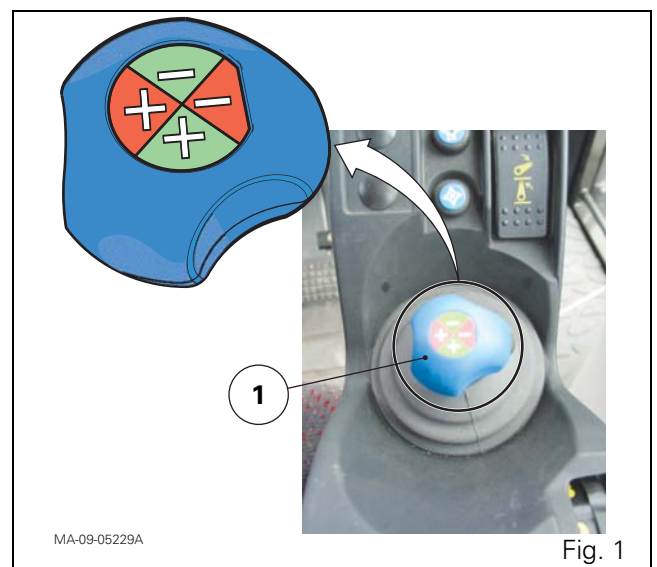

Fig. 1
The electrohydraulic spool valves controlled by a Joystick (1) (Fig. 1) are fitted with a floating Kick-out position (automatic return to neutral).
NOTE: Figures 1 to 4 indicate the assembly order of the auxiliary spool valves.